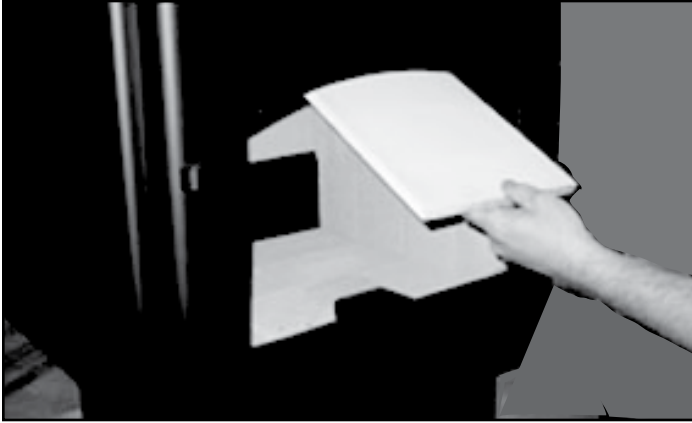

Figure 23.1 - Baffle
2. The baffle board has 2 pieces; with the ceramic blanket still in place, slide one baffle piece over the top of other one and pull out top piece through the door opening and then remove bottom baffle piece (**Figure 23.1**).